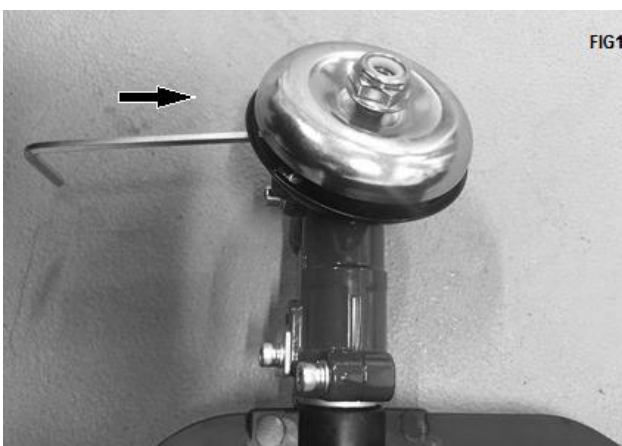

FIG10
- Insert a metal locking tool into the hole on the side of the drive gear and on the tool drive (Fig 10).